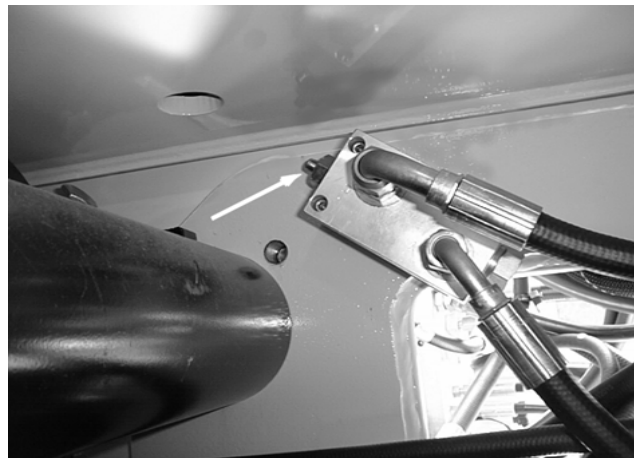

Figure 2-5. Tower Boom Vertical Limit Switch
- a. Place machine on level ground with the tower boom assembly in the stowed position. Identify the tower boom vertical limit switch adjacent to the tower lift cylinder at the bottom end (rear) of the tower base boom. Open the left side hood and perform a visual check that the plunger on the tower boom vertical limit switch is fully extended. The plunger is shown fully extended in Figure 2-5.